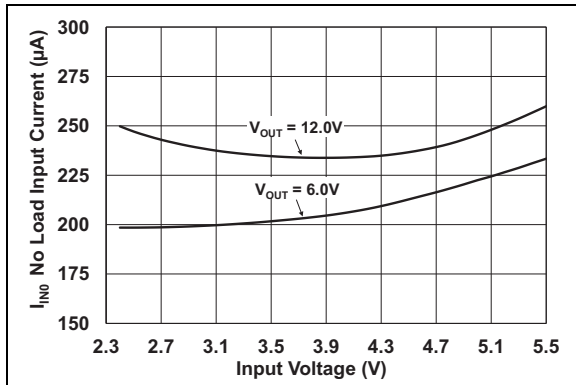

FIGURE 2-8: No Load Input Current, I_{IN0} vs. V_{IN} ($EN = V_{IN}$).
- 2:** I_{IN0} varies with input and output voltage (Figure 2-8). I_{IN0} is measured on the V_{IN} pin when the device is switching (EN = V_{IN}), at no load, with $R_{TOP} = 120\text{ k}\Omega$ and $R_{BOT} = 1.05\text{ M}\Omega$.
- 2:** I_{IN0} varies with input and output voltage (Figure 2-8). I_{IN0} is measured on the V_{IN} pin when the device is switching ($EN = V_{IN}$), at no load, with $R_{TOP} = 120\text{ k}\Omega$ and $R_{BOT} = 1.05\text{ M}\Omega$.